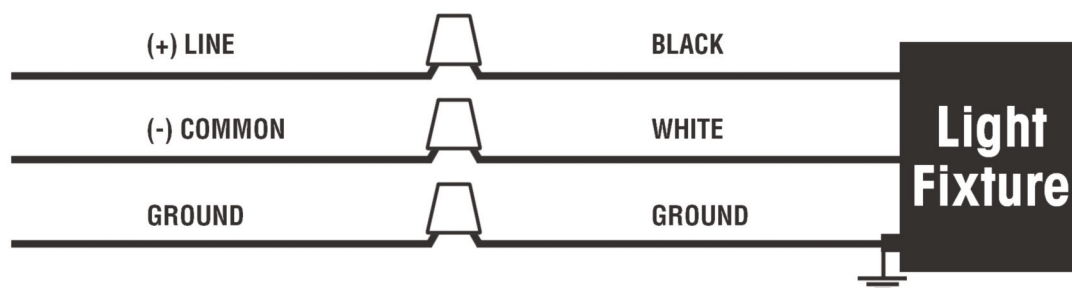

Fig. 1
7. Make wiring connections, following General Wiring Diagram **(Fig. 1)**. Be sure to secure any loose wiring connections safely inside junction box.
6. Make wiring connections, following General Wiring Diagram. **(Fig. 1)** Be sure to secure any loose wiring connections safely inside junction box.